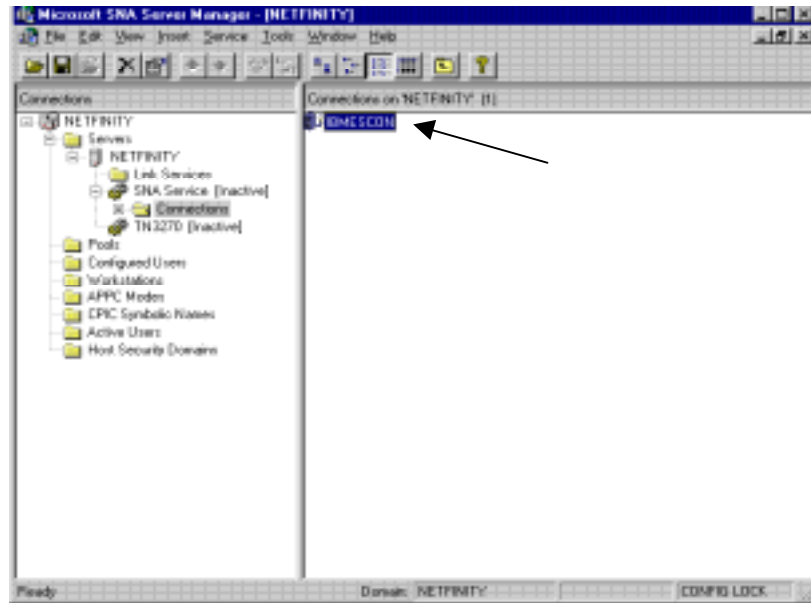

Figure 16-15. ESCON Connection (PU)
2. Verify that a connection is defined to the link service (Figure 16-15).